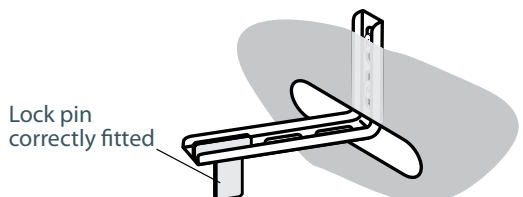

Fig. 20c Fitting the lock pin through the bracket
- Fit the lock pin through the bracket, as shown (Fig.20c).